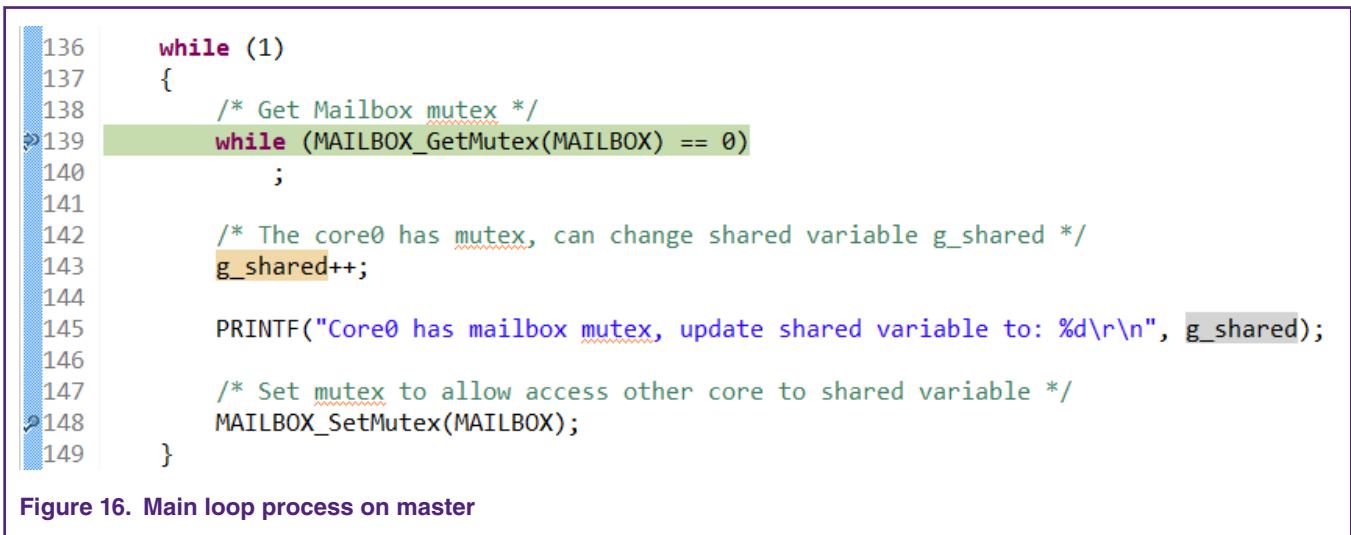
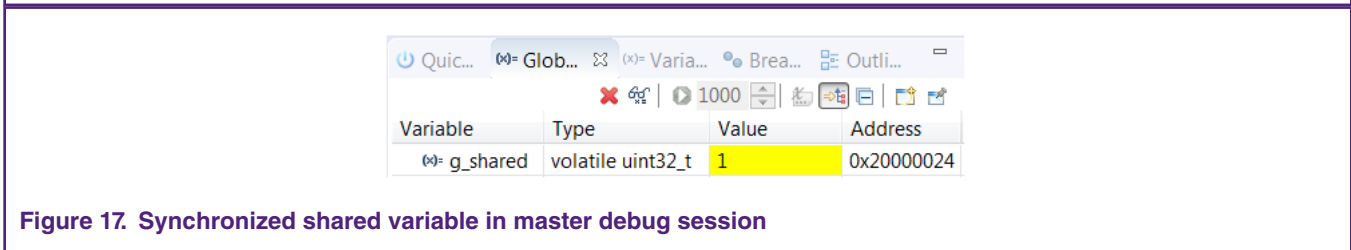

Figure 16. Main loop process on master
Figure 17. Synchronized shared variable in master debug session
After stepping over the code of setting Mutex (MAILBOX_SetMutex(MAILBOX);), it means the access to shared resource is available to either of the cores. Currently, switch to the Master thread for debugging the Master while(1) loop which has the similar functions as the Slave: get Mailbox Mutex, update the shared variable g_shared and set Mailbox Mutex (see Figure 16. on page 10). The code of getting Mutex will be stepped over when performing the **step over**. Meanwhile, the value of the shared variable g_shared in the **Global Variable** window will be refreshed to 1 (see Figure 17. on page 10), as it has been changed by the Slave core.